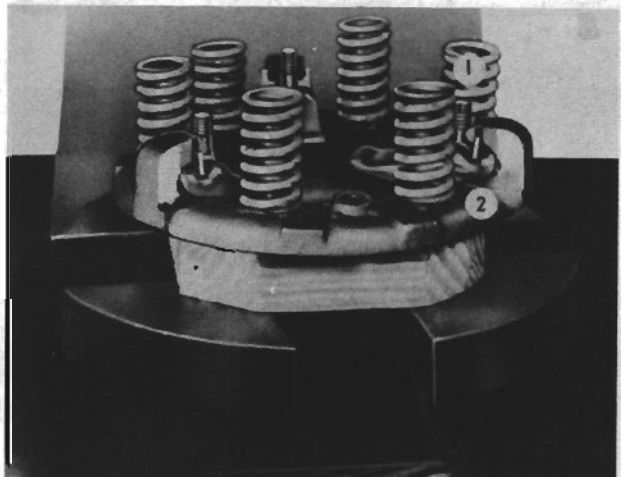

FIG. 7
Assemble the springs (1, Fig. 7) on the small bosses of the pressure plate (2). The center boss of each group on the Champion and Flighthawk clutch is not used. Install the anti-rattle springs in the cover and place the cover upon the pressure plate and springs. Be sure the punch marks of the cover and the pressure plate lug are aligned and the anti-rattle springs are in position. Then place the assembly on a wooden block